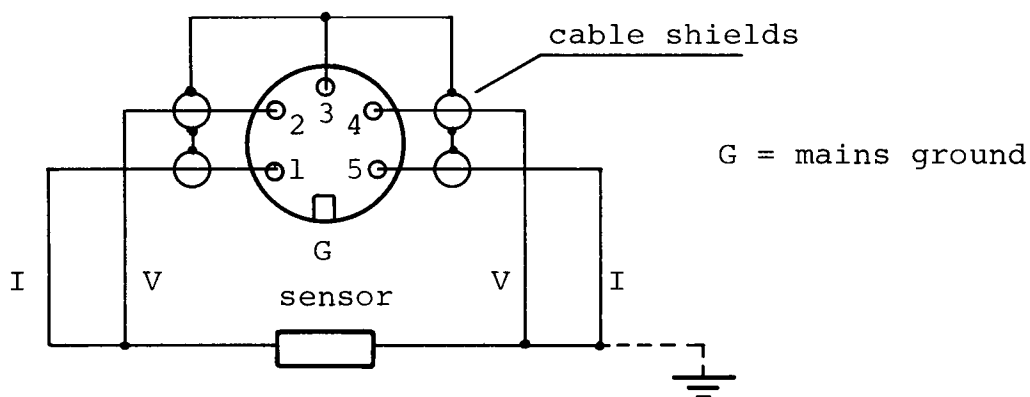

Fig.3. Input connector
1. Short-circuit the input. Refer to Fig. 3 on page 10-1 for the input connector wiring. If the leads are more than a few centimeters long (total resistance more than 0.1 ohm), 4-wire connection must be used.
The sensor connection is shown in Fig. 3.